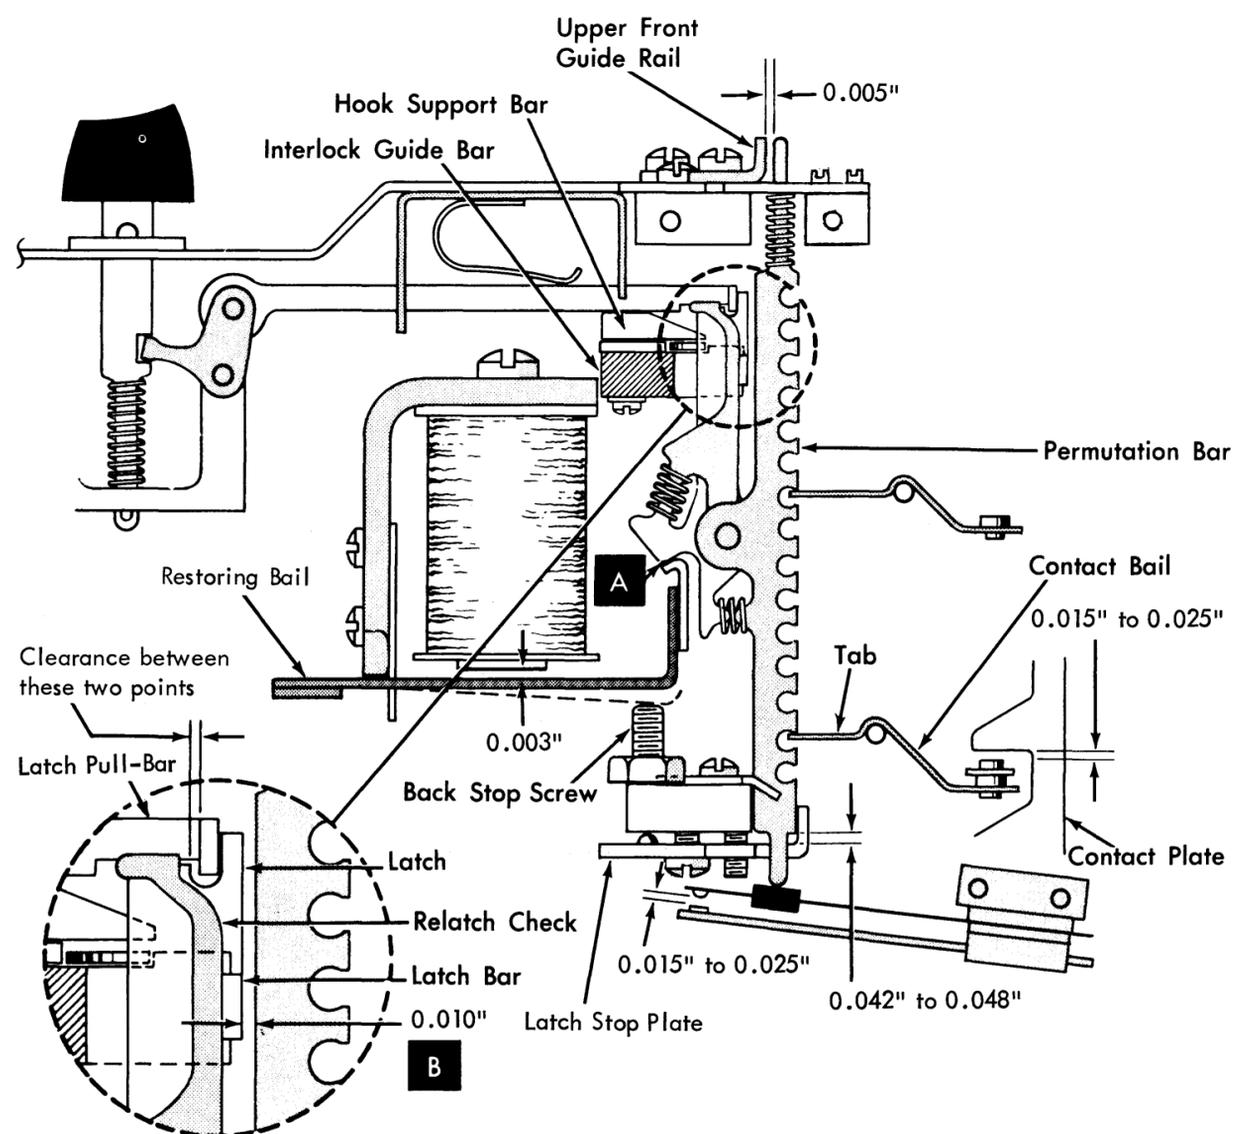

Figure 4-53. Keyboard Adjustment
With bail contact assemblies out of the machine, form each contact strap to require a pressure of 9 to 11 grams to close points (measure at contact point). Position the contact plates for contact air gap of 0.015 inch to 0.025 inch with all latch assemblies restored (Figure 4-53).
bail contacts all latches at A, Figure 4-53. This should result in 0.010-inch maximum overtravel of latching point with gage removed.
2. Position the comb for 0.010-inch ( $\pm 0.005$ -inch) clearance between latch bar and permutation bars (B, Figure 4-53).
*Note:* Do not oil or grease the hook ends of the latch pull-bars. On reassembly, check clearance of latch to pull-bar (Figure 4-53).
2. Lift the key from the unit while the end of the latch pull-rod is held up and clear of latch. Be careful that the keystem spring does not drop into the unit. Refer to Figure 4-53.
5. Reassemble keyboard. Check the clearance of the latch to the pull-bar (see Figure 4-53).